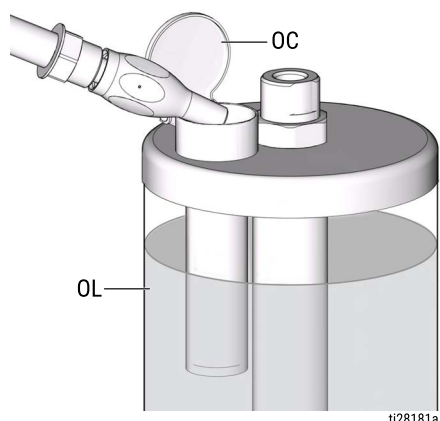

FIG. 5
2. Slowly add oil (OL) until the reservoir is filled to capacity (FIG. 5).
3. Close the oil fill cover (OC) to prevent contamination and spillage (FIG. 5).